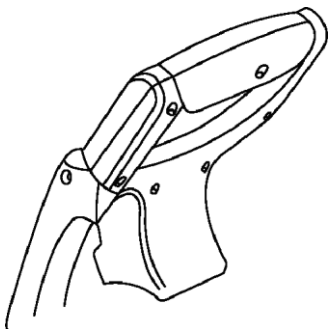

Fig 9
1. To turn the saw on, squeeze the ON/OFF trigger switch until the chop saw starts. During operation, you should continue to squeeze the trigger switch. (Fig 9)